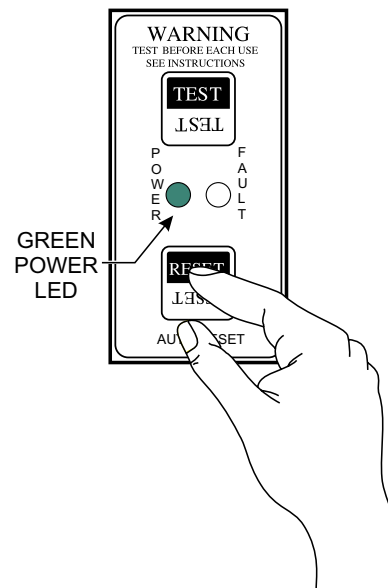

Figure 50. GFCI Sensing Module (Green LED ON)
3. Press the **RESET** button on the GFCI sensing module (Figure 50) and verify that the **GREEN** power LED is **ON**.